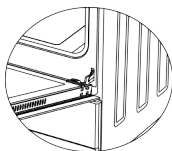

Figure 2.1
2. Carefully look at the door's hinges to identify the small hooks. These small hooks are the locking tabs for the door hinges (Figure 2.1).